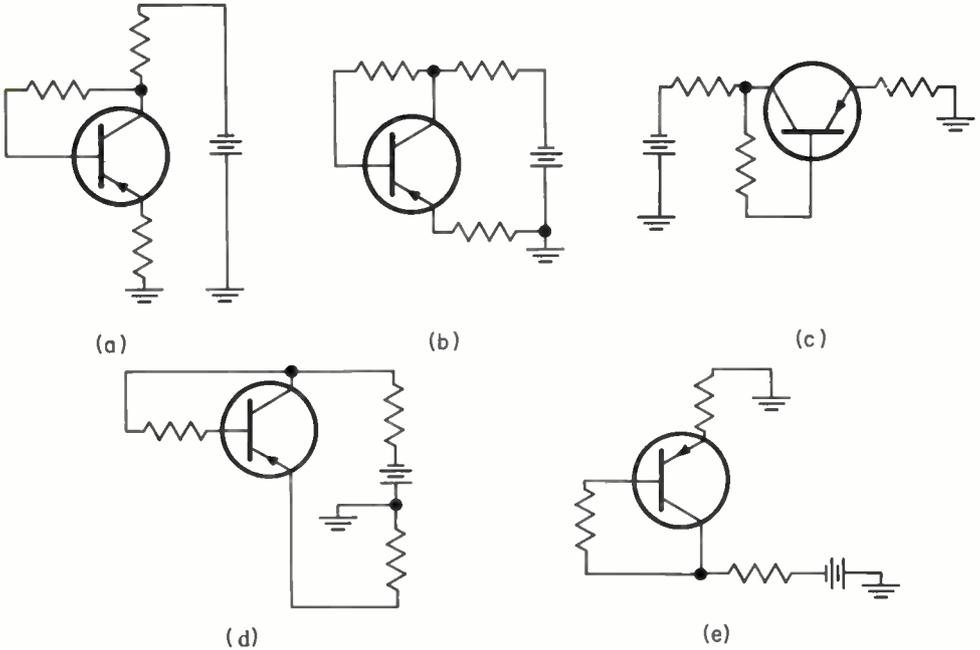

Fig. 62
1. Are all the schematics in Fig. 62 connected alike, or is one different from the others?